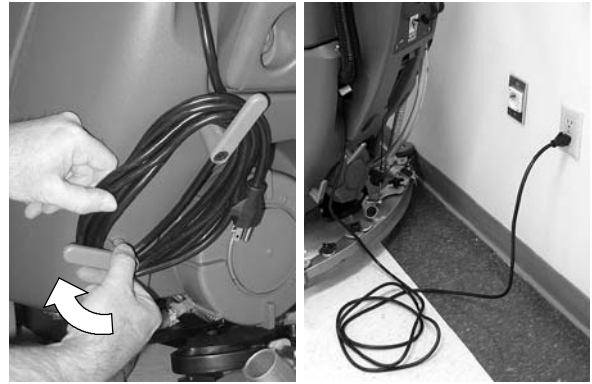

FIG. 54
- Recharge the batteries after a total of 30 minutes of use or more (Figure 54). (See CHARGING BATTERIES).